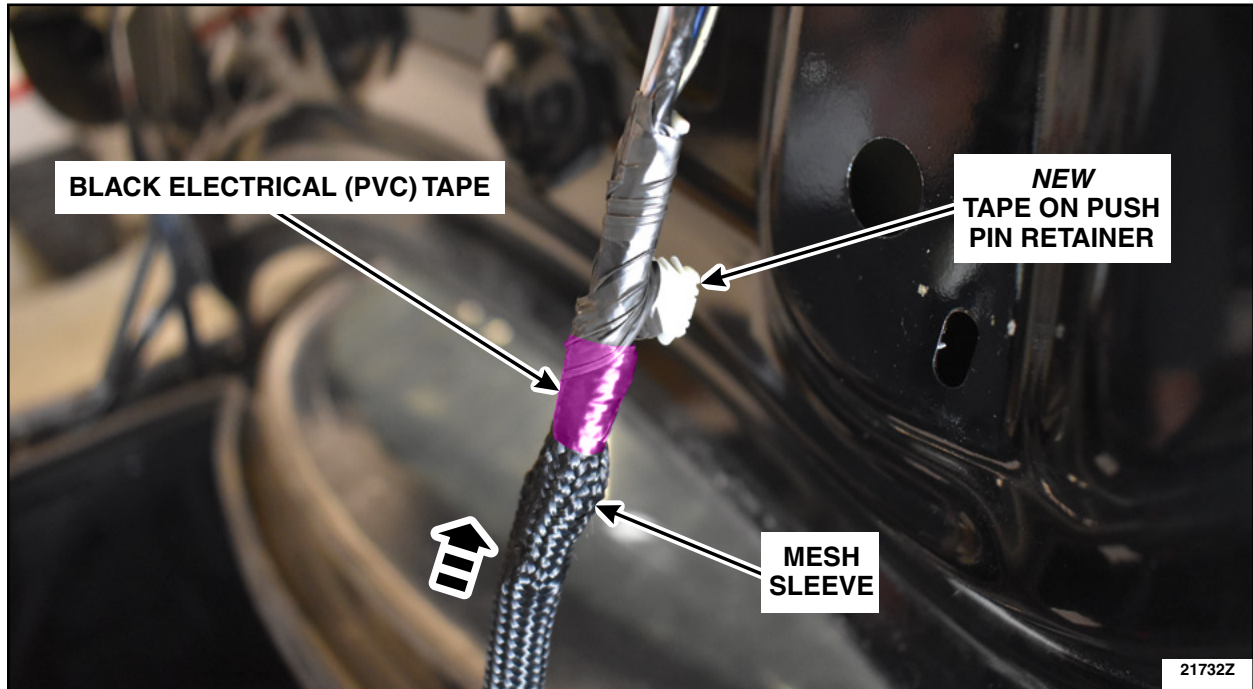

FIGURE 25
34. Slide the mesh sleeve up to the new tape on push pin retainer and secure using some KT173510 or equivalent black electrical (PVC) tape. See Figure 25.